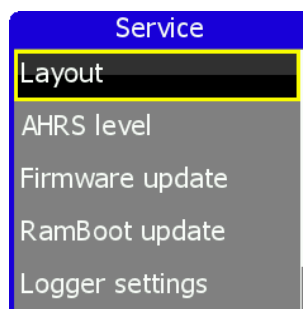

Figure 32: EMSIS Service menu.
The *Service* menu is accessible by selecting the Service option from the Settings screen. Dialogue illustrated on figure 32 opens.
1. from the Service menu, select the Up/Down option, see figure 32,